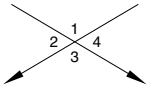

Figure 3-8. Two intersecting lines form four angles with the opposite angles being equal.
- **Opposite angles are equal.** When two lines intersect, they form equal angles. Thus, in Figure 3-8, Angle 1 equals Angle 3, and Angle 2 equals Angle 4.